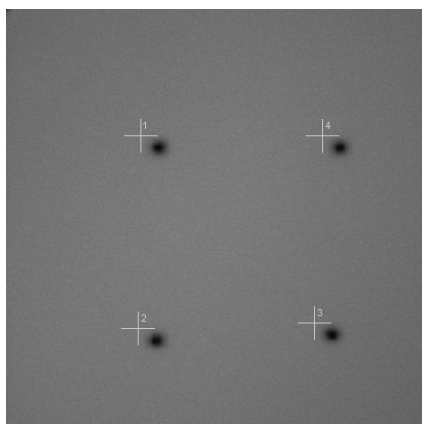

Fig. 9-134 Image of dye layer after bleach
- Re-scan the image (Fig. 9-134). The bleached spots should be visible.